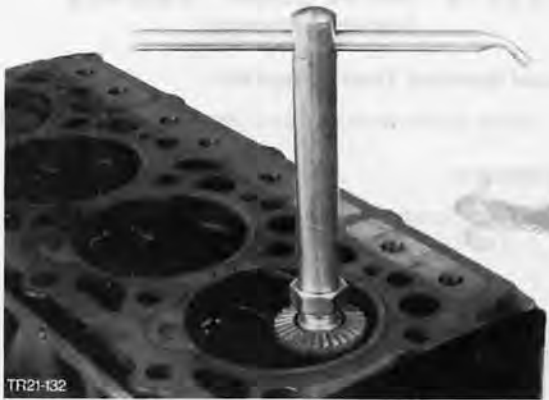
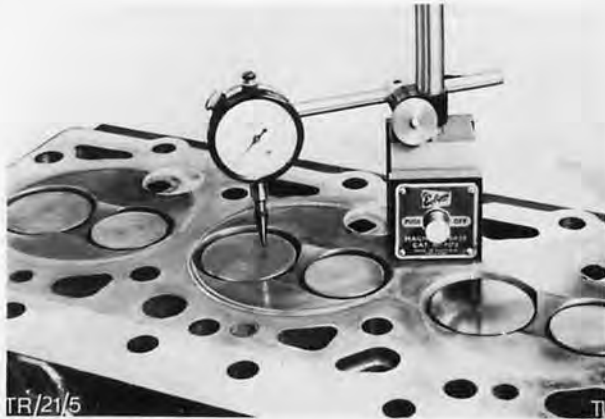

Fig. 119. Cut valve seat
Fig. 120. Valve head depth in cylinder head
1. Machine valve seat using standard valve seat milling cutters, Fig. 119, then re-machine valve seat width using correcting cutter and measure valve head depth in cylinder head, Fig. 120.